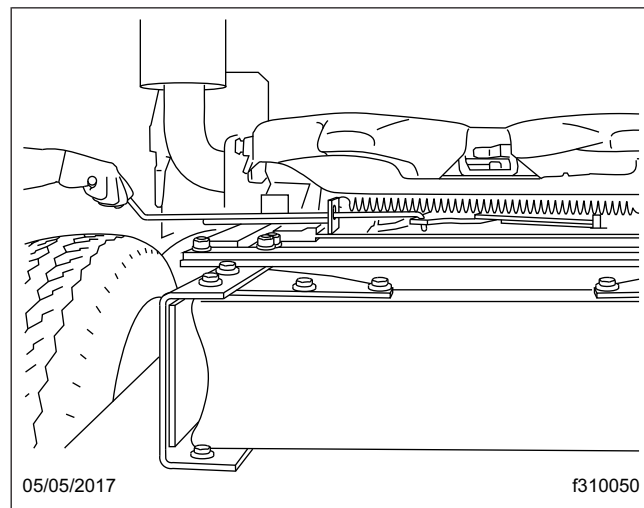

Fig. 17.12, Releasing the Sliding Fifth Wheel, (Fontaine)
- 2.1 **Fontaine:** Lift the slide release pull handle to disengage it from the guide plate. Then, pull out the handle until it is in the unlocked position and can be positioned against the guide plate to hold it out. The handle will stay in the unlocked position until it is manually disengaged from the guide plate. See Fig. 17.12.